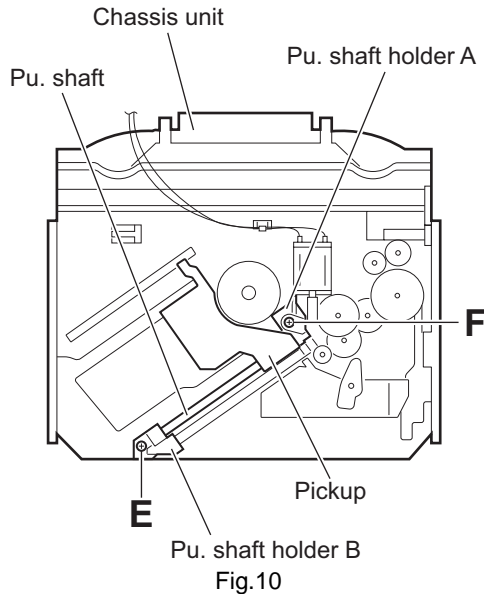

Fig.10
3.2.7 Removing the pickup (See Figs.10 to 12)
- (1) From the bottom side of the chassis unit, remove the screw **E** attaching the pu. shaft holder B and pull the pu. shaft out of the pu. shaft holder A. (See Fig.10.)
- (2) Remove the screw **F** attaching the pu. shaft holder A. (See Fig.10.)
3.2.8 Reattaching the pickup (See Figs.10 to 13)
- (4) Set the section **m** of the pickup to the rail of the chassis unit at first and attach the pickup to the chassis unit with the screw **F** as before. (See Figs.10 and 13.)
- (5) Attach the pu. shaft to the pickup as before. (See Fig.10.)
- (6) Attach the pu. shaft holder B to the chassis unit with the screw **E** as before. (See Fig.10.)